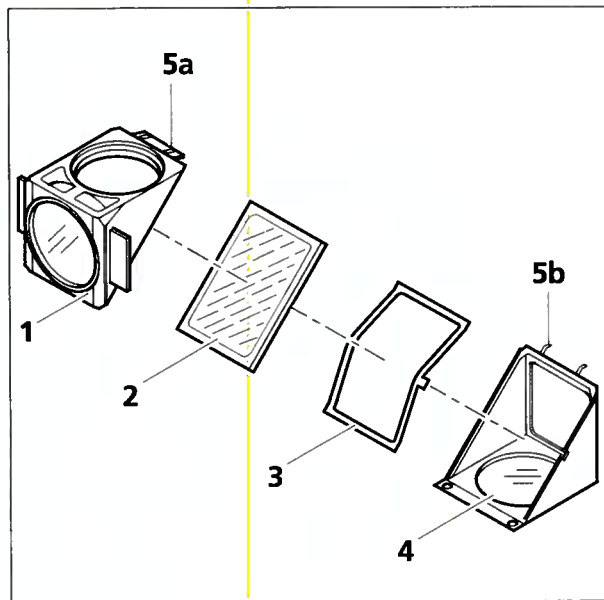

Fig. 6-13 Changing the beam splitter
- Tilt the upper **excitation** half of the module (Fig. 6-13/1) upwards and lift it out of the retaining elements (Fig. 6-13/5b) of the lower **emission** half of the module (Fig. 6-13/4).
- Remove the beam splitter (Fig. 6-13/2) and spring frame (Fig. 6-13/3) from the lower half of the module.
- Remove the old beam splitter and carefully place the new one on the spring frame (Fig. 6-13/3) with the reflective side pointing up. Place both parts together into the lower half of the module. Make sure that the side lug of the spring frame engages in the corresponding recess of the lower half of the module.
- Place the **excitation** half of the module (Fig. 6-13/1) onto the **emission** half of the module (Fig. 6-13/4) – retaining elements (Fig. 6-13/5b) and eyelets (Fig. 6-13/5a) interlock. Hold both halves together and turn into the mounting position.